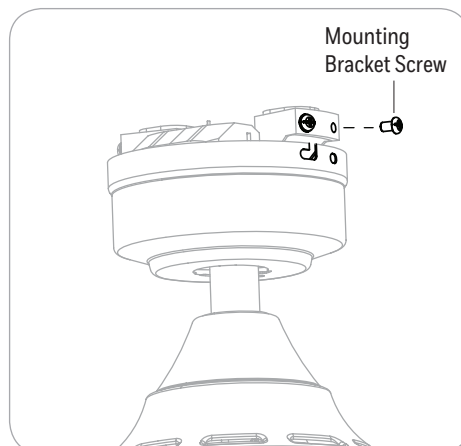

Figure 5.2
2. Align the canopy over the loosened mounting bracket screws. Place the J-slot of the canopy onto the mounting bracket screws and rotate clockwise (Figure 5.2).